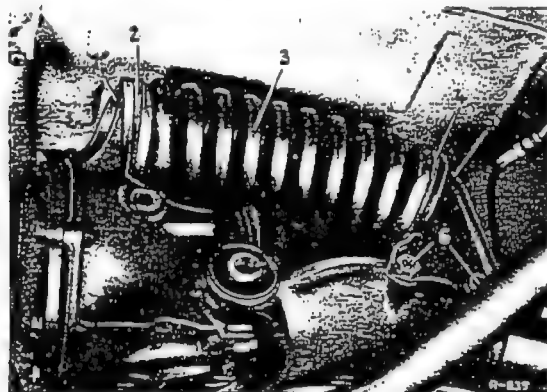

Fig. 32-7/1
2. Insert Spring Tensioner 111 589 00 31 (Fig. 32-7/2) and compress the compensating spring (3) until there is no pressure on the bracket (5) on the right axle tube (Fig. 32-7/1).